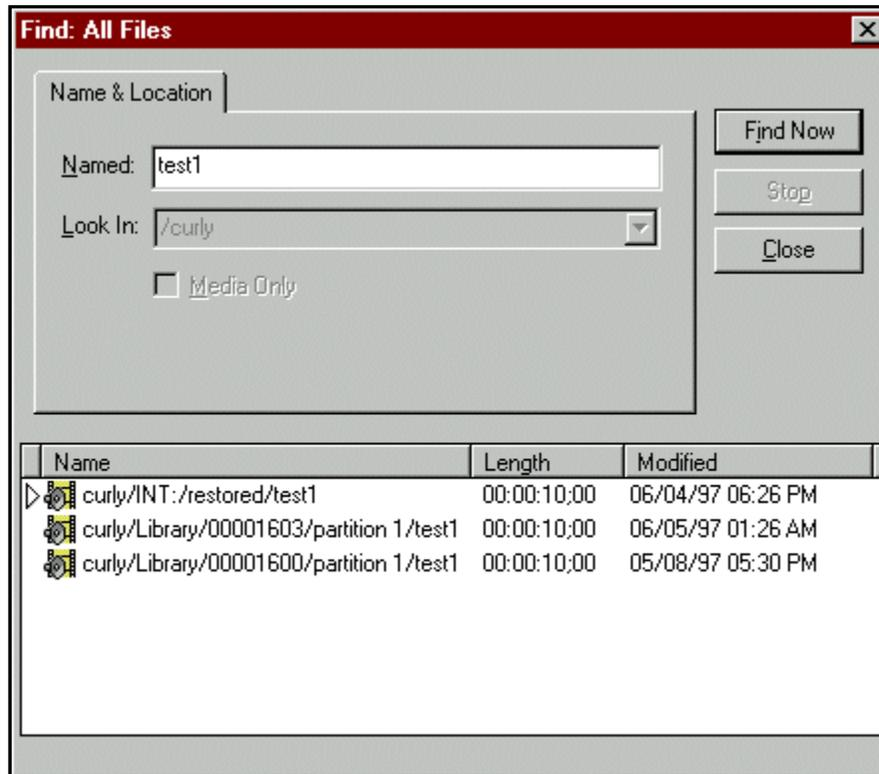

Figure 57. Find dialog box
2. Choose **Find** on the **Edit** menu or from the shortcut menu with a right-click. The Find dialog box appears (see Figure 57).